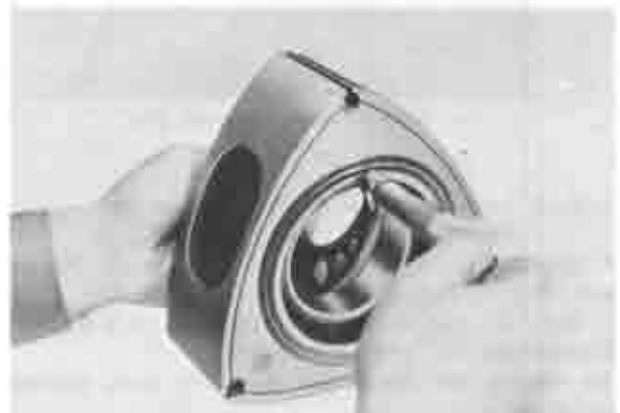

Fig. 1-40 Checking rotor width
5. Check the gap between the side housing and the rotor by measuring the rotor housing width and rotor width. The rotor width should be measured at 3 points as shown in Fig. 1-40. The difference between the minimum width of rotor housing and the maximum width of the rotor should be within **0.10 ~ 0.21 mm (0.0039 ~ 0.0083 in)**.